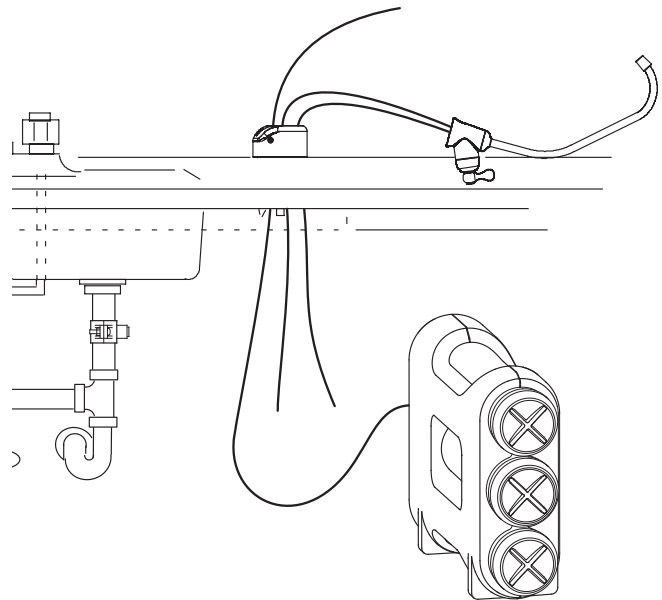

FIG. 14
7. Locate the faucet body. The black and blue tubes are already connected to the faucet. Insert these tubes into the sink hole until approximately one foot of tube length and the faucet body are left above the counter surface. Do not kink the tubes in the process. See Fig. 14.